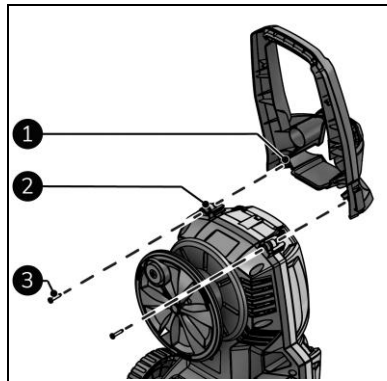

Figure 8
1. Attach the handle (Figure 8, pos. 1) to the main body (Figure 8, pos. 2) with both ST4.8x20 screws (Figure 8, pos. 3).